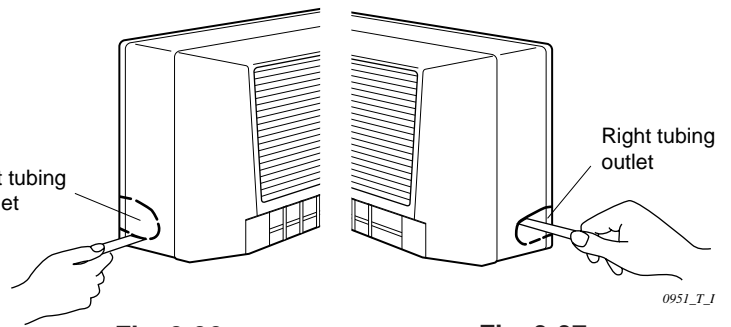

Fig. 3-36
- (a) Cut out the left tubing outlet. (Fig. 3-36)